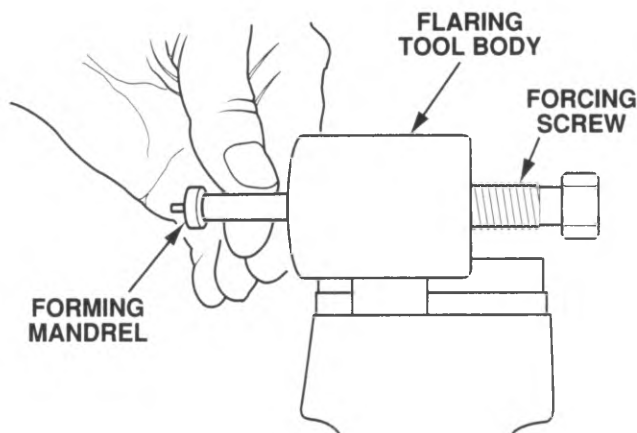

Figure 4-16, Forming Mandrel and Forcing Screw for ISO Flare
9. Insert the correct forming mandrel into the tool body (refer to figure 4-16). Hold the forming mandrel in place with your finger and thread in the forcing screw until it makes contact and begins to move the forming mandrel. Turn the forcing screw back one complete turn after contact is made.